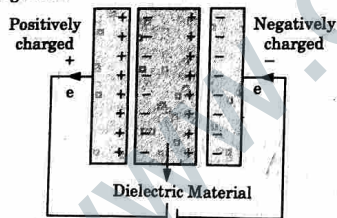

Fig. 1.6.1.
1. A capacitor has two parallel plates or electrodes to which we connect an external battery. And in the middle we have a dielectric material as shown in Fig. 1.6.1.